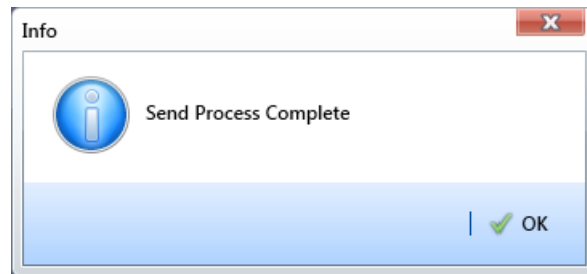

Figure 7-40. Send Process Complete
- 28 Click  **OK** when the message *Send Process Complete* displays (Figure 7-40). PCS Axis sends the survey file to the *PSData* folder on the Allegro.